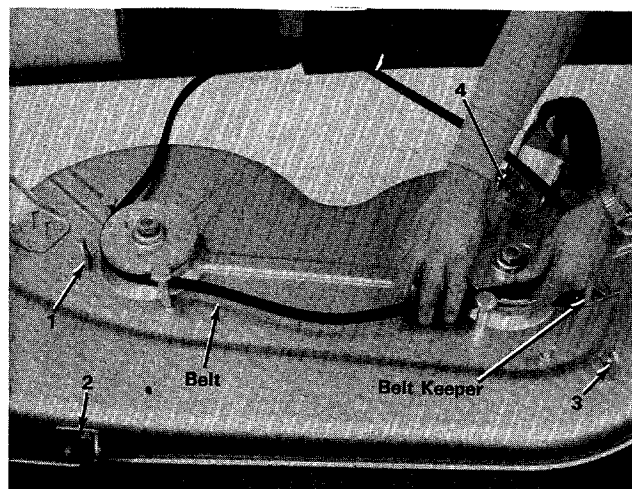

Figure 32
7. Remove the blade belt from the two deck pulleys. (See figure 32.)